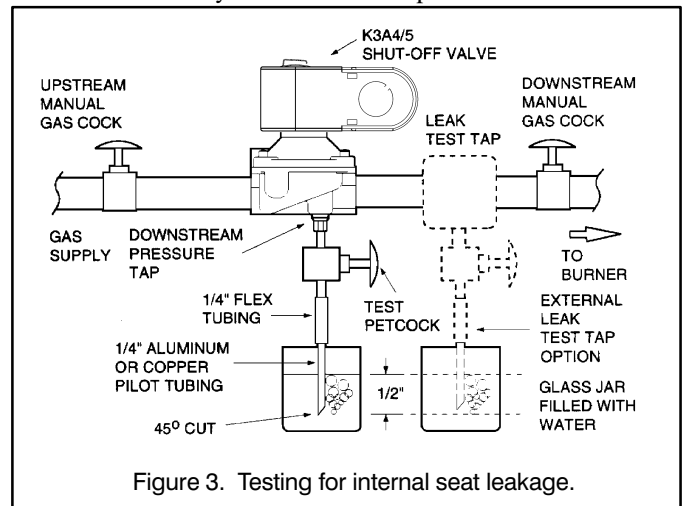

Figure 3. Testing for internal seat leakage.
Series K3A4 and K3A5 valves are provided with two 1/8" NPT tapped and plugged holes (pressure taps). The upstream tapped and plugged hole is on the side of the valve body; downstream on the bottom of the valve body. One upstream for pressure testing; one downstream for seat leakage testing. Leakage testing frequency shall be at least annually in accordance with NFPA-86 or original equipment manufacturer recommendations. For instructions, refer to section on *Testing for Internal (Seat) Leakage* and Figure 3.
Testing for Internal (Seat) Leakage (Refer to Figure 3)
- Shut off the upstream manual gas cock and de-energize valve. Remove the plug from the leak test tap or downstream pressure tap in the valve body. Connect leak test equipment with the test petcock in the closed position (Figure 3).